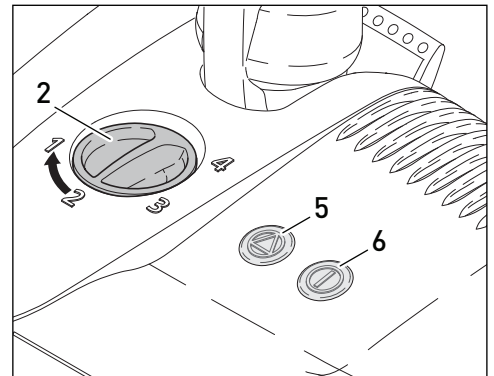

Figure 1
Operating the Power Head - Figures 1 & 2
A. To clean delicate or hard floor surfaces with straight suction only, the power head is equipped with an on/off switch (#6, figure 1). When this switch is used to turn off the brush roller, the green indicator light is also turned off.
The Brush Height Adjustment Feature - Figure 1
Indicator Lights - Figures 1, 2 & 3
Green and Amber Light: (#5 and #6, figure 1) The brush is not fully engaged in the carpet. The height adjustment should be lowered. If the height adjustment is at its lowest setting, the brush is worn and needs to be replaced.
Green Light Only: (#6, figure 1) Brush is working well. We strongly recommend selecting a brush height that is only one level beneath that at which both the green and amber lights are on. For maximum cleaning performance, the brush height adjustment can be lowered to its lowest setting.
Amber Light Only: (#5, figure 1) The brush is blocked. Turn off the power head, disconnect it from the power source, and then remove the blockage.